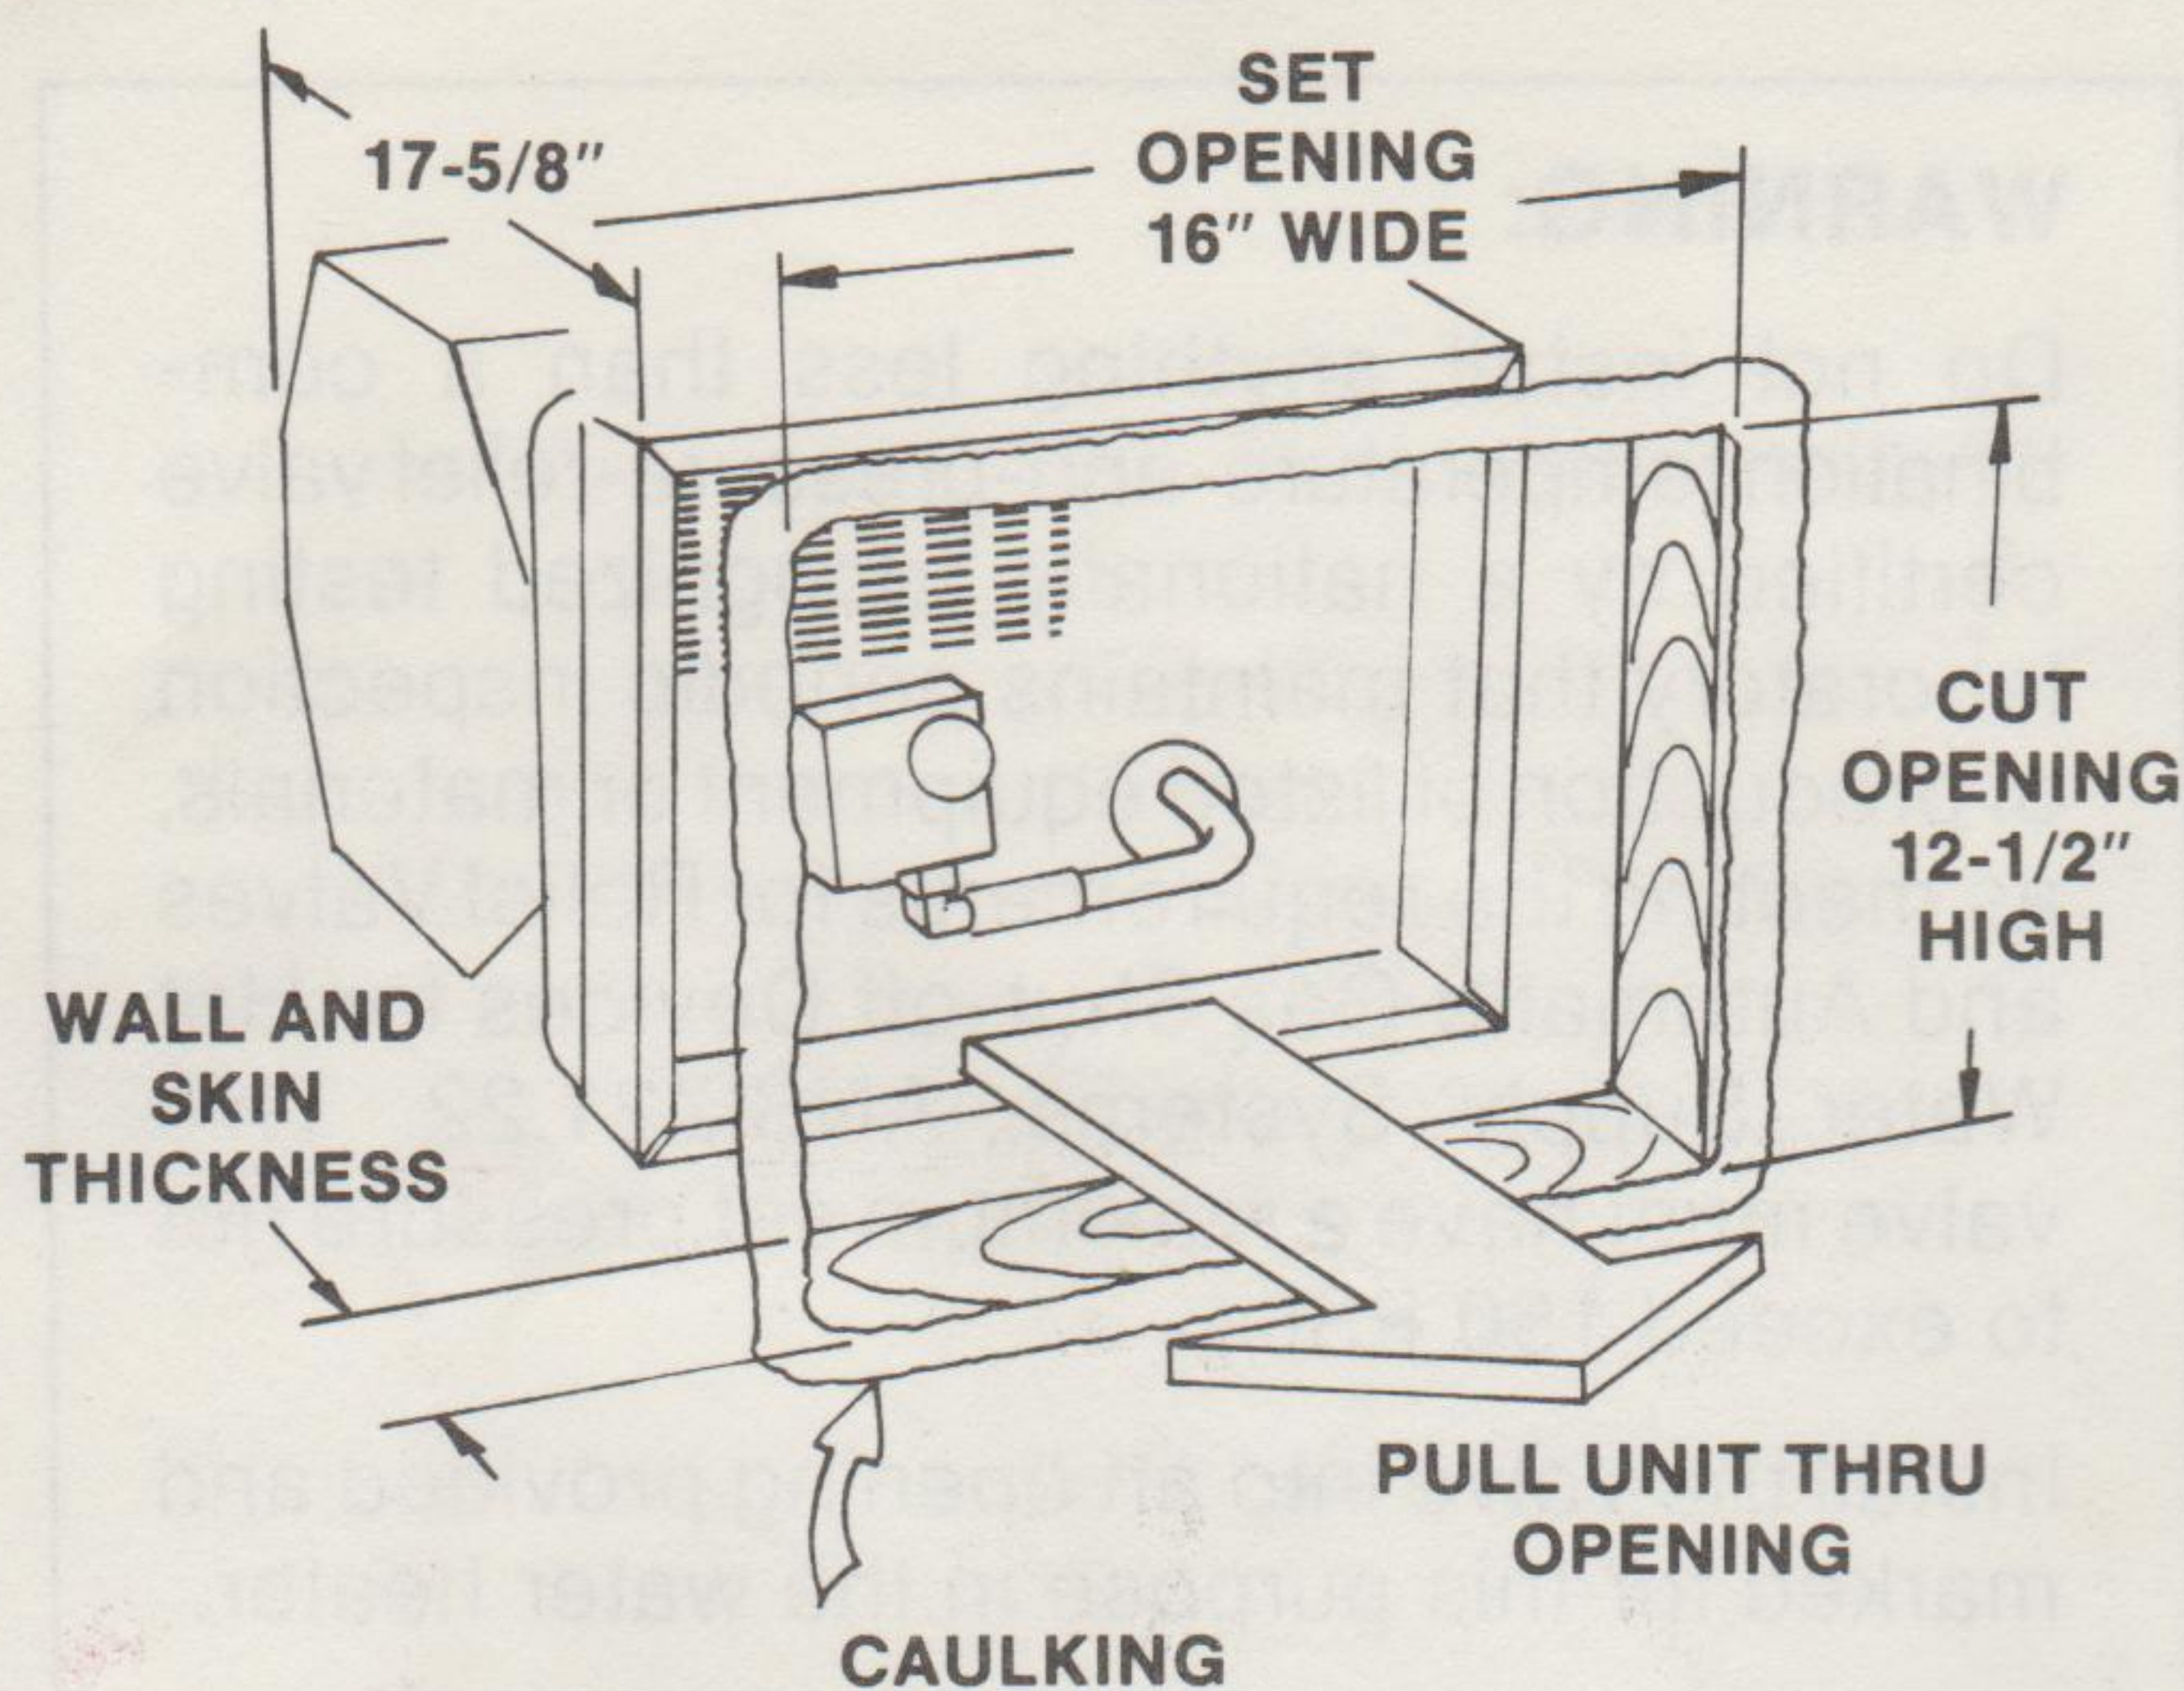

FIGURE 3
7. Pull unit through opening one inch past outside skin (Figure 3). Bend all flanges 90° along scored lines (Figure 4). Caulk at bend slots.